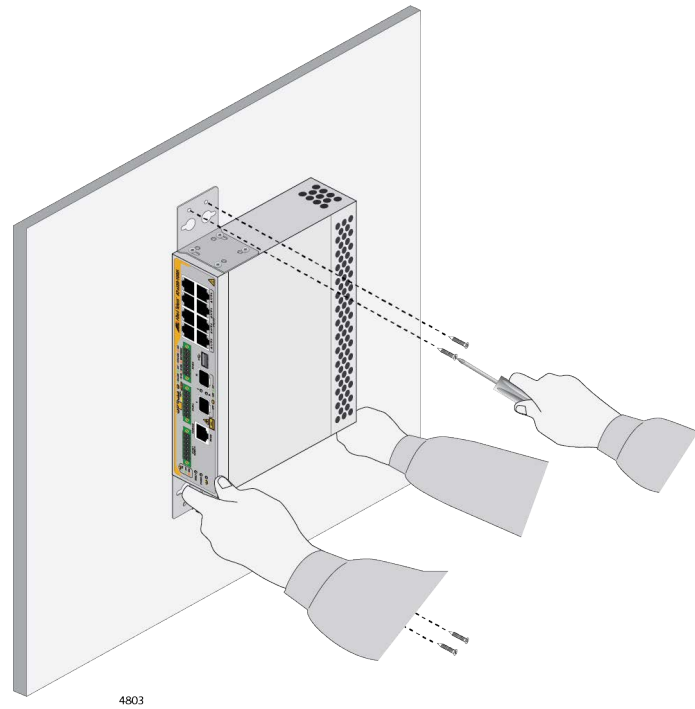

Figure 56. Installing the Device on a Concrete Wall
6. Have another person hold the device at the selected wall location while you secure it to the wall with the M4x32mm screws provided. Refer to Figure 56 on page 115.